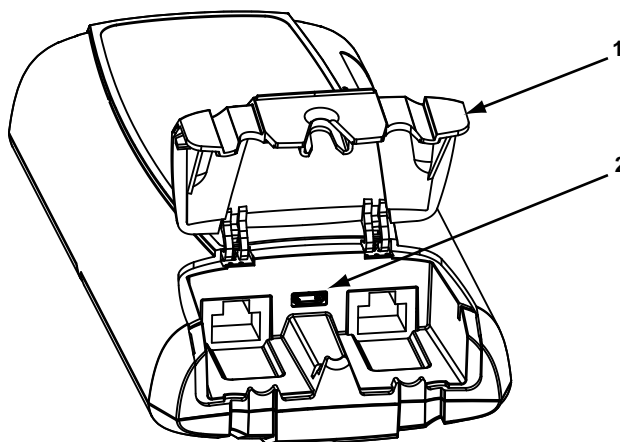

Figure 5-28 Firmware update available message
When the display device has downloaded and stored a Scanner firmware update it displays a notification message when Scanner is selected from the VERDICT Home screen (Figure 5-28).
4. Select OK when the firmware update notification displays (Figure 5-28).